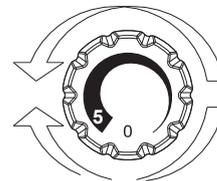

Fig. 2
- The temperature adjustment of compartment is effected by rotating the thermostat knob (Fig. 2). Select the desired position: